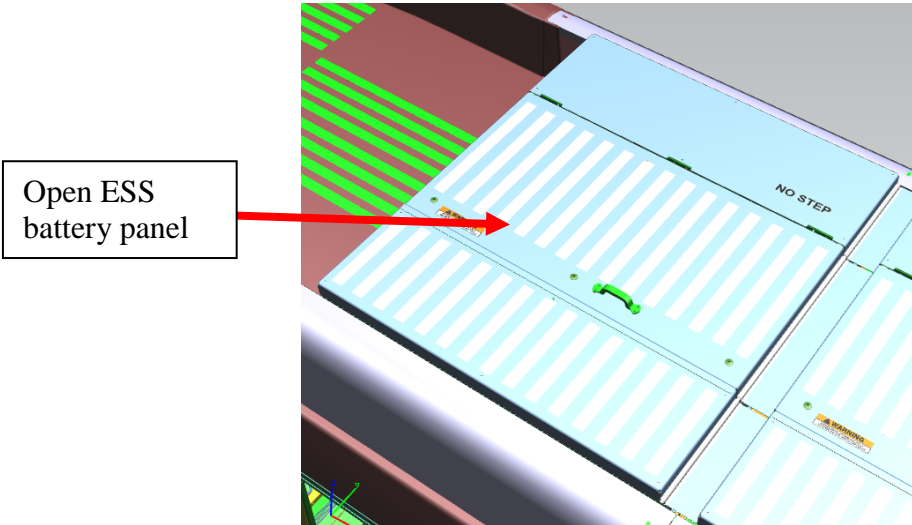

Figure 19: Front rooftop ESS
- 5.1 Locate the front and rear rooftop ESS and open ESS battery panel. See figure 19.